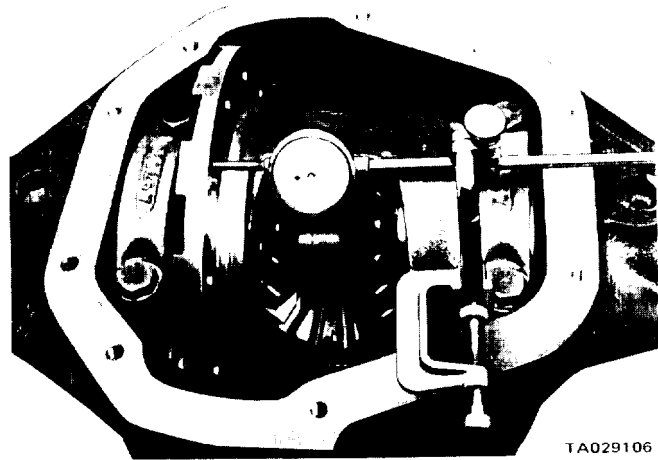

Figure 19-4. Measuring Differential Case Drive Gear Mounting Flange Face Runout.
(14) If the drive gear runout was over 0.006 inch in step 5, remeasure the differential case flange runout. Install the differential case with its respective bearing cups in the axle housing. Loosen the spreader tool nut and remove it. Install the bearing caps and tighten them snugly. Install the dial indicator as shown in figure 19-4, and measure the runout as described in step 5.